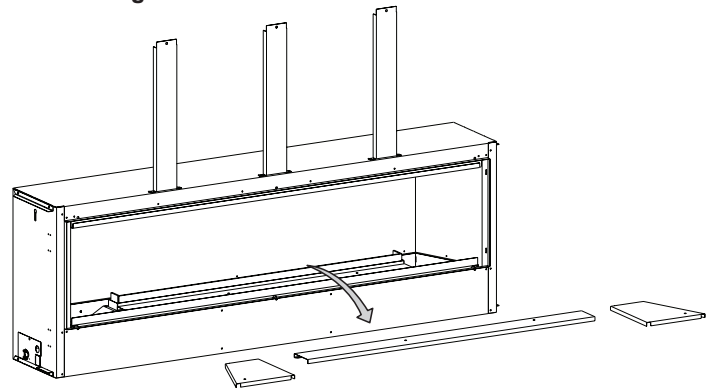

Figure 3
4. If installed, remove the side and rear glass support screens. **See Figure 3.**